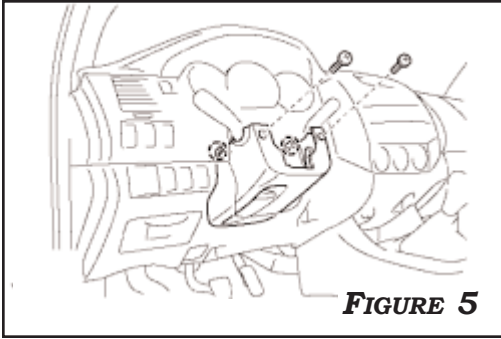

FIGURE 5
4. REMOVE 2 PHILLIPS SCREWS TO RELEASE THE STEERING COLUMN SHROUD. **FIGURE 5**